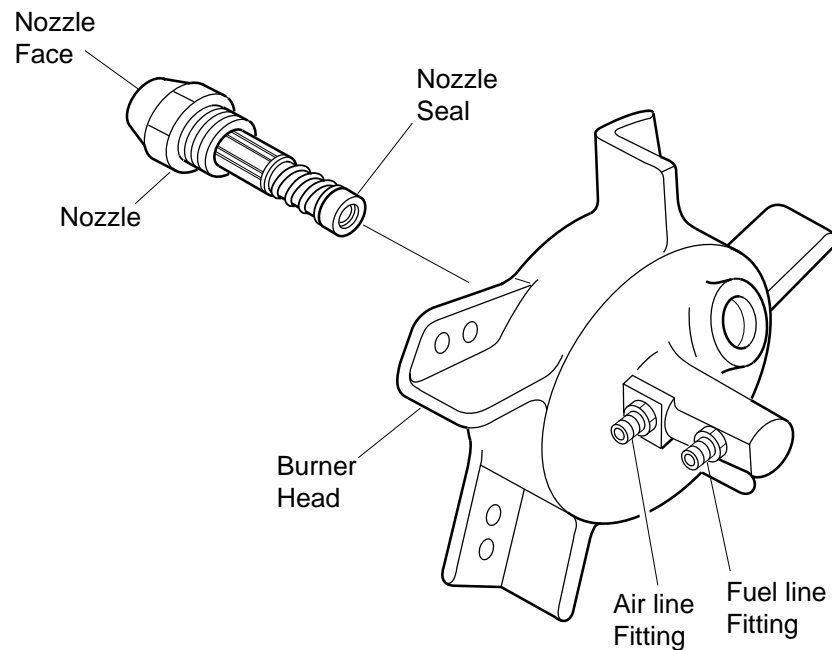

Figure 24 - Removing Nozzle, 70/90/150,000 Btu/Hr Models
8. Carefully remove nozzle from burner head using 5/8" socket wrench (see Figure 24).